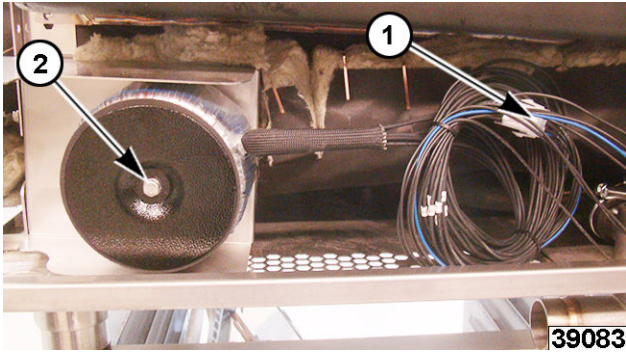

Fig. 78
2. Disconnect wire connector (1, Fig. 78).
3. Remove mounting screws (2, Fig. 78).